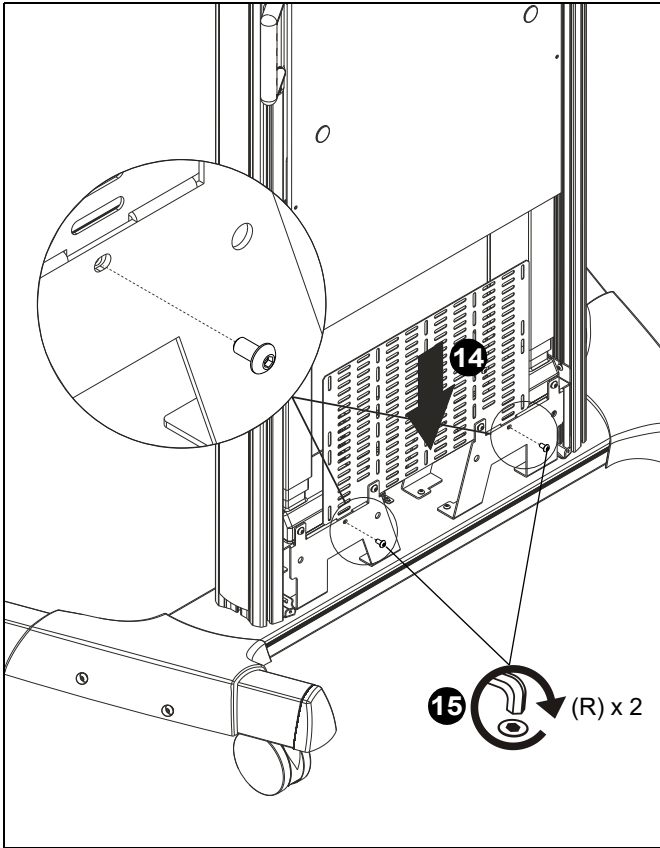

Figure 7
14. (Optional) Place component bracket (C) in mounting position. (See Figure 7)
15. (Optional) Use two #10-24 x 3/8" button head cap screws (R) to secure component bracket. (See Figure 7)